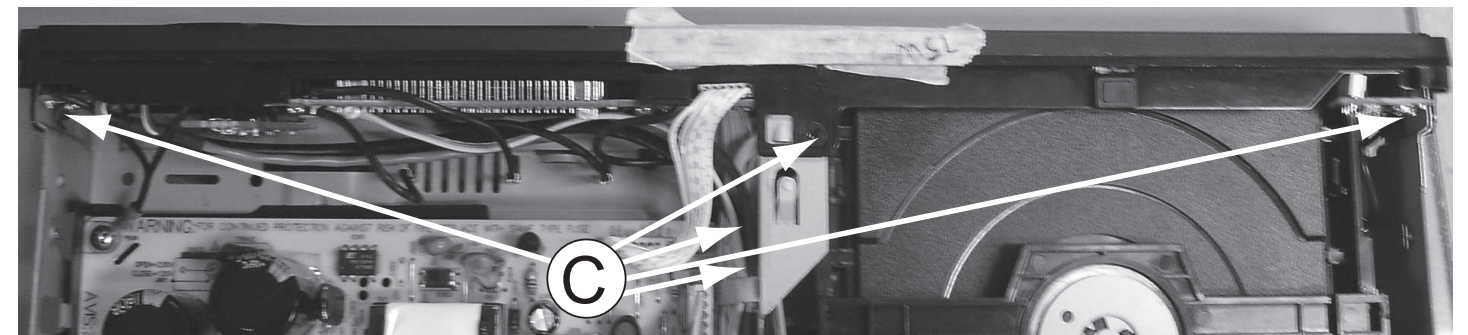

Figure 6
- 4) Loosen 5 screws "C" at the front panel bracket as in figure 6 to remove the front panel.